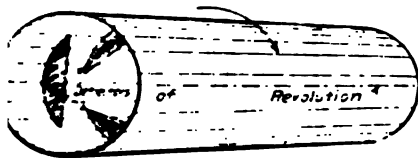

Fig. 11—A Cylindrical Concrete Mixer.
(11) This is somewhat similar to No. 10, but the box is of cylindrical form and is fitted with deflectors, as shown in Fig. 11.